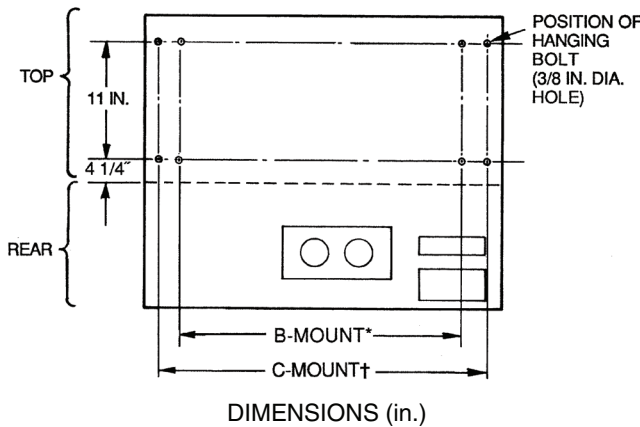

**Fig. 6 — Installing Hex-Head Mounting Bolts in Fan Coil Unit**
1. Remove mounting bracket and reinstall the 2 hex-head bolts (factory-supplied) into each side of indoor unit as shown in Fig. 6. Allow approximately  $\frac{3}{8}$ -in. space between bolt head and unit.